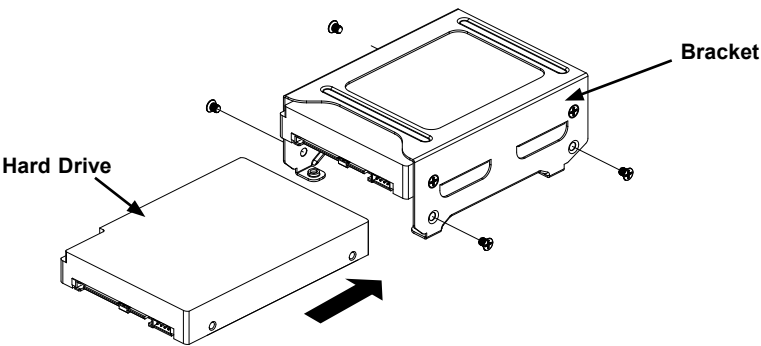

Figure 3-11. Installing Hard Drives into the Bracket
1. Identify the HDD bracket and secure the drive(s) to the bracket. (Figure 3-11).